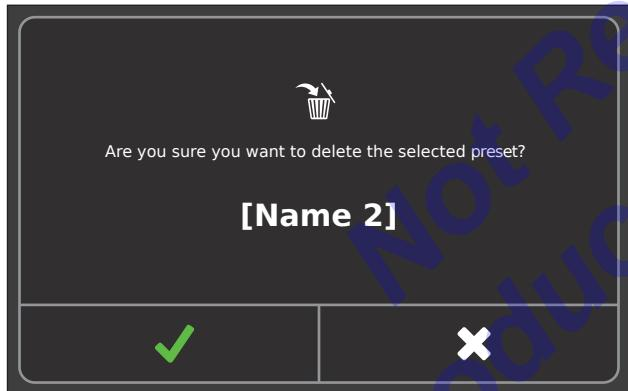

Figure 67 – Confirm Preset Deletion
- From the confirmation pop-up, touch the CONFIRM button to delete the preset or the CANCEL button to cancel the request (Figure 67).